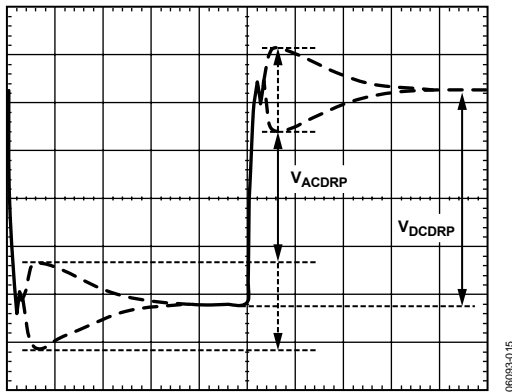

Figure 17. AC Load Line Waveform
14. Measure the output waveform (use dc offset on scope to see the waveform). Try to use a vertical scale of 100 mV/div or finer. This waveform should look similar to Figure 17.
15. Use the horizontal cursors to measure V_{ACDRIP} and V_{DCDRIP} as shown in Figure 17. Do not measure the undershoot or overshoot that happens immediately after this step.